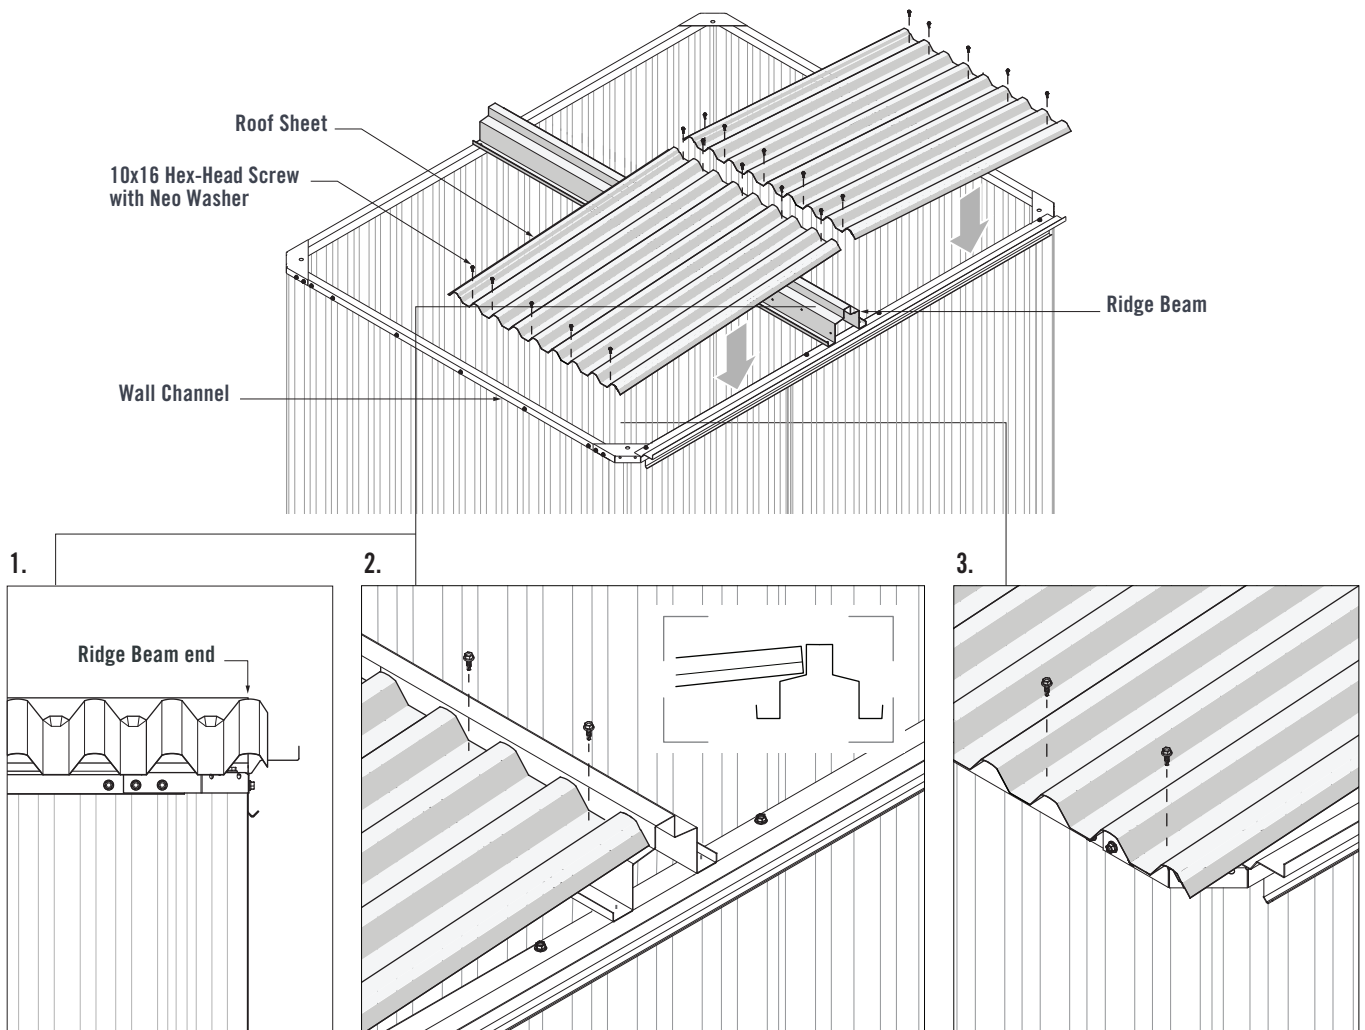

FIGURE 7.4
Lay a Roof Sheet onto the Ridge Beam and Wall channel, ensuring the overlap end of the Roof Sheet is facing the front of the shed (Figure 7.4).
1. Ensure the middle of the Roof Sheet crest is in-line with the end of the Ridge Beam (Figure 7.4)
2. Ensure the Roof Sheet is hard against the step of the Ridge Beam. Fasten five 10x16 Hex-Head Screws with Neo Washers through the pans of the Roof Sheet and into the Ridge Beam (Figure 7.4).
3. Fasten five 10x16 Hex-Head Screws with Neo Washers through the pans of the Roof Sheet and into the Wall Channel (Figure 7.4).